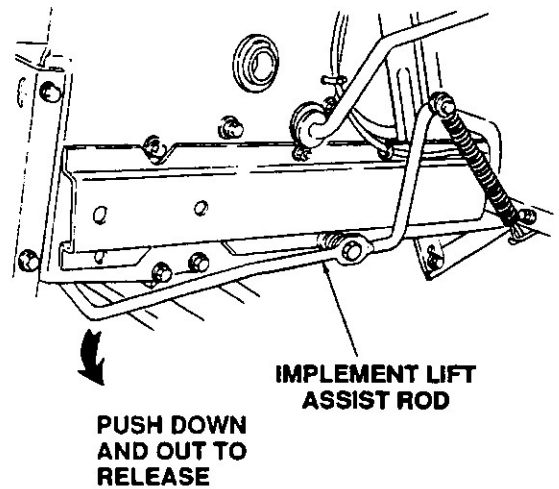

Figure 23
19. Raise tractor implement lift handle to its highest setting. Push downward and outward on rearward end of each of the two implement lift assist rods located at the right rear and left rear of the tractor. (Refer to Figure 23.)